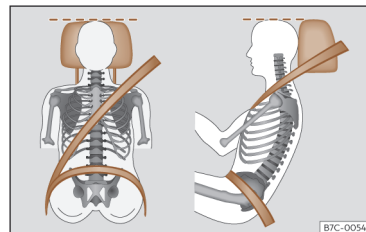

Fig. 16 Correct belt web and headrest positions
your head and under no circumstances below eye level¹⁾. Keep the back of your neck as close as possible to the headrest >>> **Fig. 16.**
- Adjust the seat lengthwise so that you can fully step on the pedals with your knees slightly bent and there is a distance between the knee area and the instrument panel of at least 10 cm (4 inches) >>> **Fig. 16.**